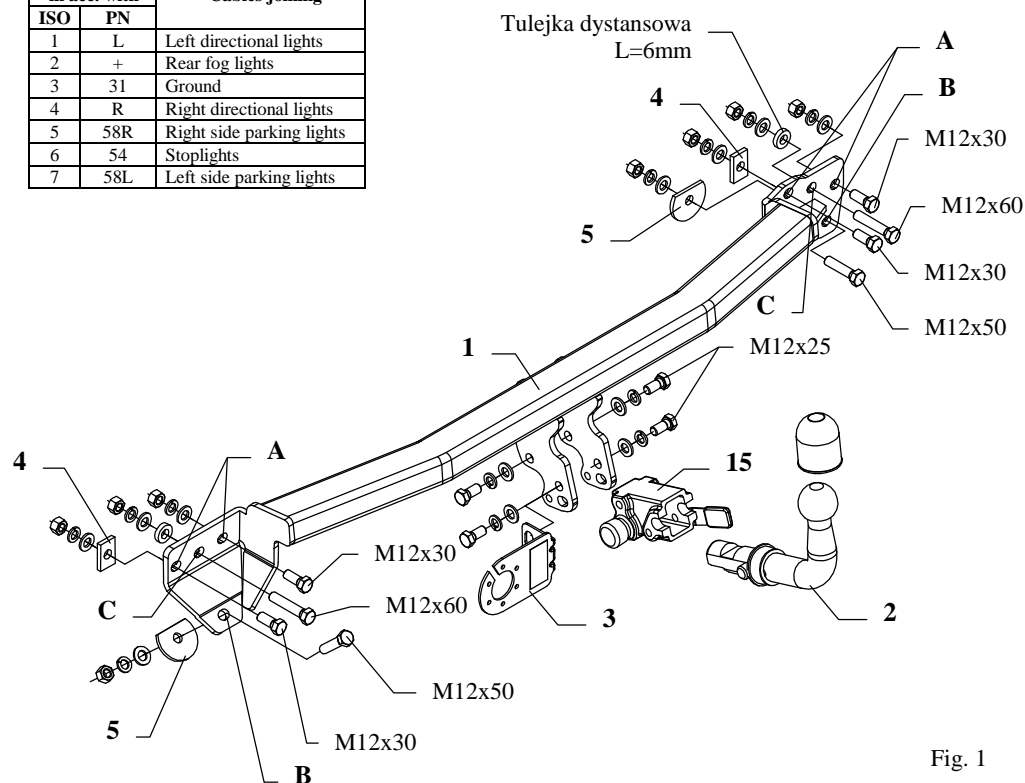
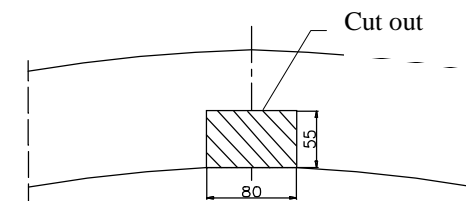

Fig. 1
Fig. 3
2. Unscrew the metal part of the bumper and then remove four bolts from points (pos. A, see the fig. 1) (use the angular polishing to remove). In the axis of symmetry cut out the fragment 80x55mm, as shown on the fig. 3.
3. Apply the main bar of the towbar (pos. 1) to the back piece and fix through holes (pos. B) using bolts M12x50mm (pos. 9) together with truncate washer (pos. 5).
4. Place four bolts M12x30mm (pos. 10) in holes (pos. A) – do not fix!
5. Through holes (pos. C) drill holes $\phi 13\text{mm}$ and then fix with bolts M12x60mm (pos. 8). Use distance sleeves (pos. 6), as shown on the fig. 1.
6. Remove bolts M12x30mm (pos. 10) from holes (pos. A) and then apply the metal bumper and fix with washer (pos. 4) using bolts M12x30mm (pos. 10).
8. Fix body of the automat (pos. 15) and the socket plate (pos. 3) using bolts M12x25mm (pos. 7) from accessories. Place tow-ball (pos. 2) according to supplied instruction.